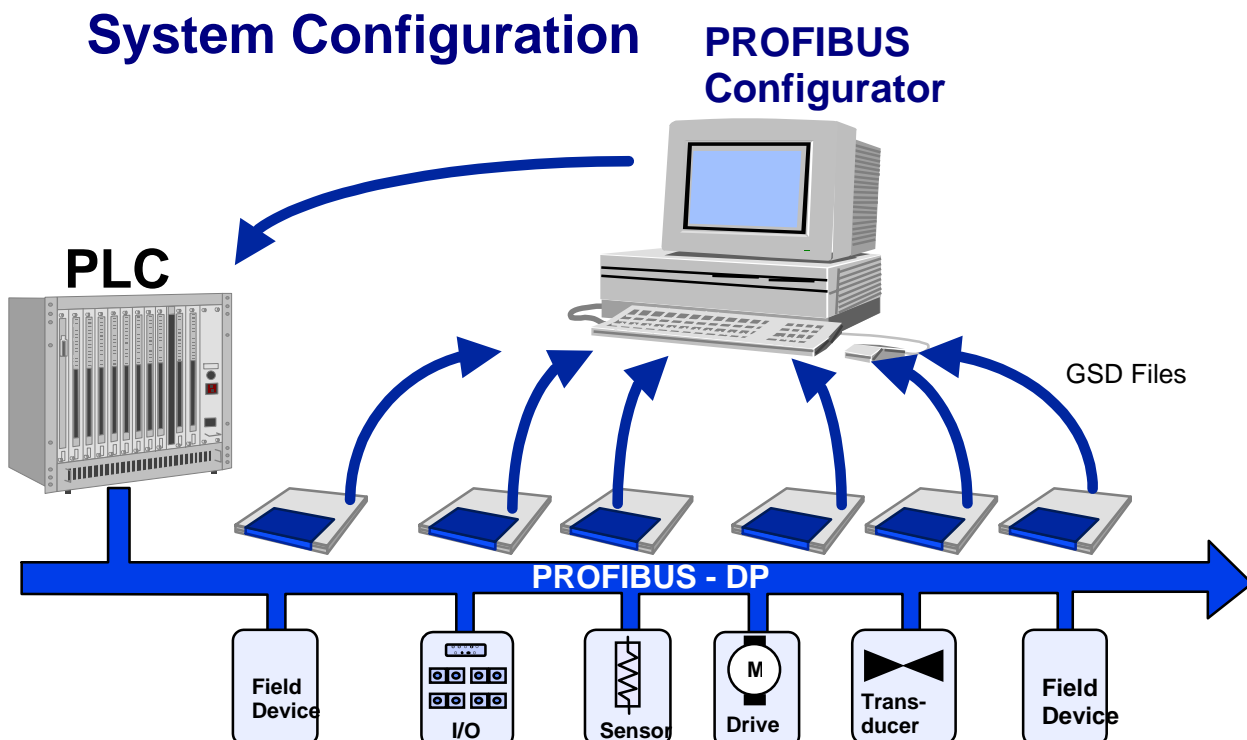

Figure 1-1: The Meaning of the Device Description Data(E) File
1.3 Who does what with the GSD(E) File?
Configuring tools for the PROFIBUS DP master that is to be configured interpret the content of the GSD(E) files of the slaves, and from it, generate a master parameter set for the Class 1 master that handles the user data traffic. In part, Class 2 master functionalities are integrated, in order to load configuring data to the Class 1 master. A Class 2 master needs the GSD(E) files of a Class 1 master in order to recognize, for example, in which form the configuring data can be loaded to the Class 1 master. If a Class 1 master supports the services Upload and Download, the configuring data can be loaded to the Class 1 master online, and existing configuring data can be changed online (refer to Figure 1-1).